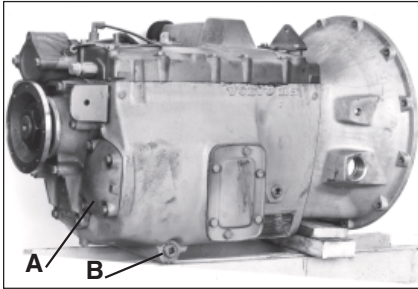

Fig. 1
Locate the countershaft cover (A) and Oil Drain plug (B) in Fig. 1.